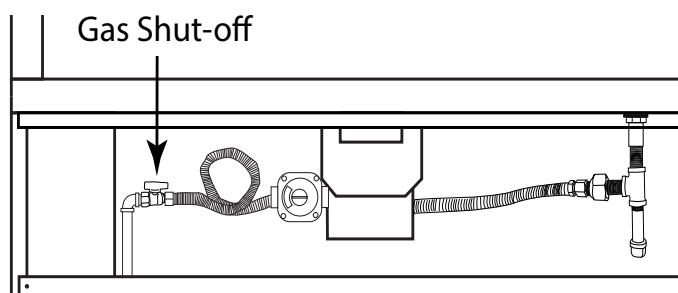

Fig. 1 Close up view of inlet gas connection with shut-off valve.
GAS LINE: The gas line must have a predetermined location to enable it to be installed. Fig. 1 shows one example of an inlet gas line with a gas shut off at the fireplace. This allows a technician to shut the inlet gas supply OFF and remove the burner for servicing. Ensure you follow the local and state gas codes per your installation.
3. The primary gas shut-off (supplied) will require a $\frac{1}{2}$ " male flared fitting to enable connection of the stainless steel flex gas line supplied with the fireplace (See Fig. 1 page 6).